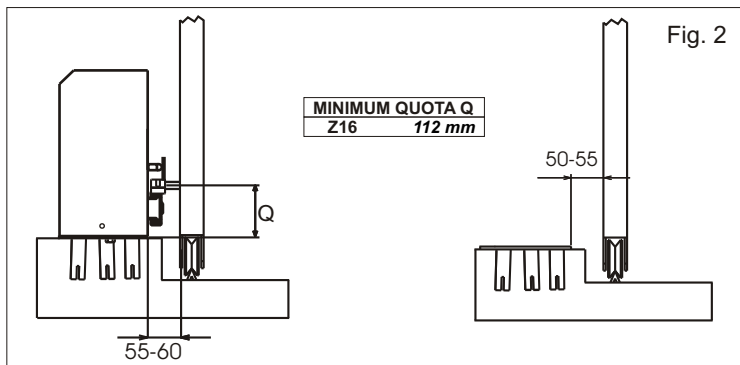
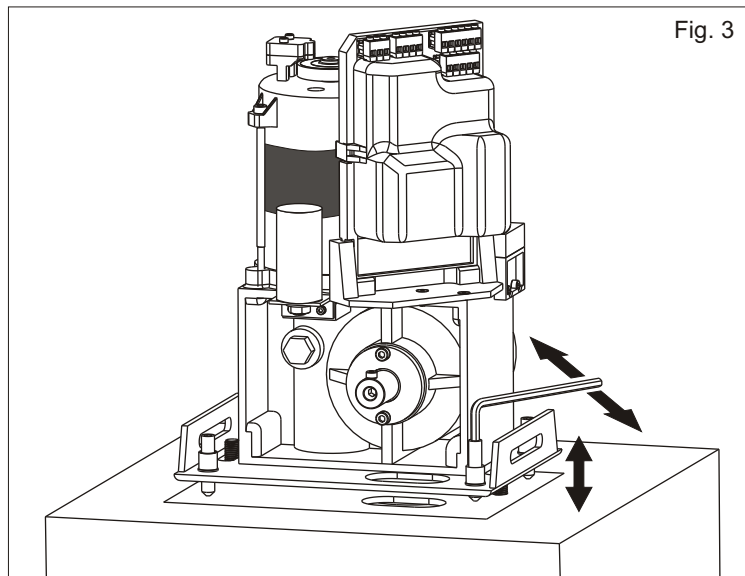

Fig. 2
Fig. 3
**2.3.** When concreting in the plate check that the plate is perfectly levelled and that the measurement of 50 - 55 mm given in Fig. 2 is followed.
**3.2.** Adjust the motor reducer height using the four supplied grains (Fig. 3) respecting the quotes mentioned in Fig. 2. The adjusting grains can be used to correct a previous and imperfect levelling of the foundation plate.